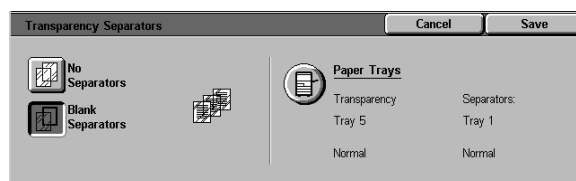

Figure 17: Transparency Separators screen with Blank Separators selected
- If you need to make changes to the separator paper tray, touch the copier/printer icon in the Paper Trays area (Figure 17) to display the Tray Settings screen. Notice that only Paper Tray 5 is selectable as the transparency tray.